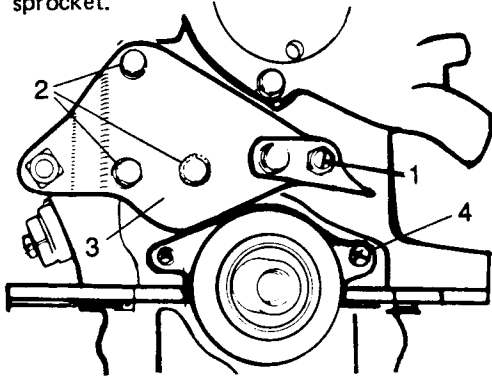
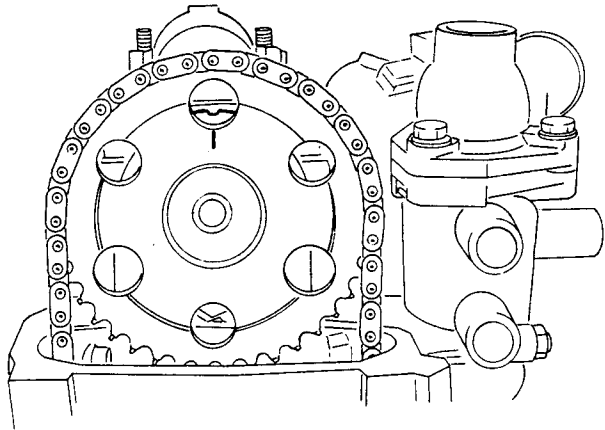
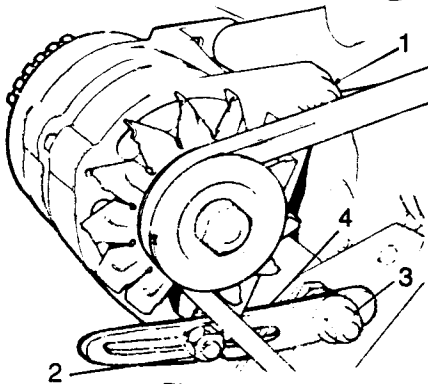

Fig B4.101
Fig B4.103
Fig B4.96
- (10) Refer to Fig B4.101. Remove the locknut (1) and three bolts (2) and lift away the timing cover (3).
- (11) Slacken the sump screws sufficiently to lower the sump by approximately 5 mm.
- (12) Remove the two seal housing screws (4). Carefully separate the housing gasket from the sump gasket with suitable blade or knife and remove the housing.
- (14) Turn the cam adjuster stud ((1) on Fig B4.101) to obtain maximum slack in the chain.
- (15) Lever the chain away from the tensioner (2) and turn the tensioner through 180°. Finally push the chain inwards and remove the tensioner through the timing cover aperture.
- (4) Refer to Fig B4.103. Replace the camshaft sprocket. Check that the timing marks on the sprocket and carrier are aligned.
- (5) Refit the chain over the sprocket.
- (6) Replace the camshaft cover (see Sub-section B4, Chapter 11).
- (7) If the crankshaft sprocket has been removed, replace it and refit the chain.
- (8) Turn the cam adjuster stud ((1) on Fig B4.101) to the point where the slack in the chain is just taken up. Do not overtighten the chain.
- (9) Fit the allen key into the chain tensioner and turn 90° counterclockwise to release the tensioner.
- (10) Replace the seal housing, securing it with the two screws.
- (11) Retighten the sump screws to 10 to 13 N.m.
- (12) Replace the timing cover noting that the dowel bolt goes through the eye at the bottom of the fixed (RH) chain guide. Tighten the other three bolts to 24 to 27 N.m.
- (13) Replace and tighten the locknut on the cam adjuster stud. Do not move the stud while tightening the nut.
- (14) Refit the crankshaft pulley and tighten the harmonic balancer bolt to 81 to 95 N.m. Check that the timing mark is still at TDC.
- (15) Replace the alternator adjusting bracket.
- (16) Replace and tension the alternator bolt. Tighten the three nuts (1), (2) and (3) on Fig B4.96.
- (17) Lower the vehicle to the ground.
- (2) Refer to Fig B4.96. Slacken the nuts (1) and (2) and remove the alternator belt.
- (3) Remove the nut (3) and take off the alternator adjusting bracket (4).